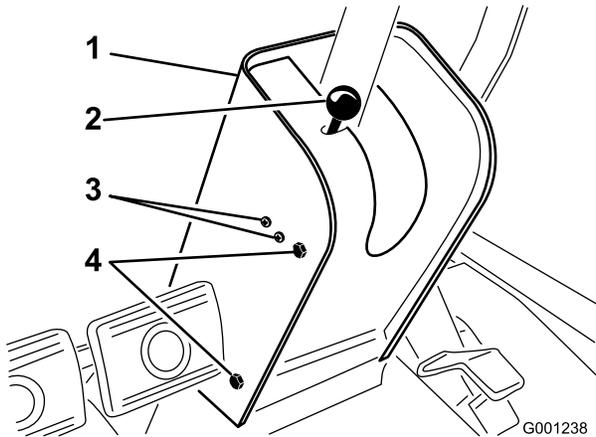

Figure 60
2. Remove the knob from parking brake rod and screws from the steering tower cover (Figure 60).
4. Loosen the screws and nuts securing the parking brake switch to the left side of the steering tower (Figure 60).